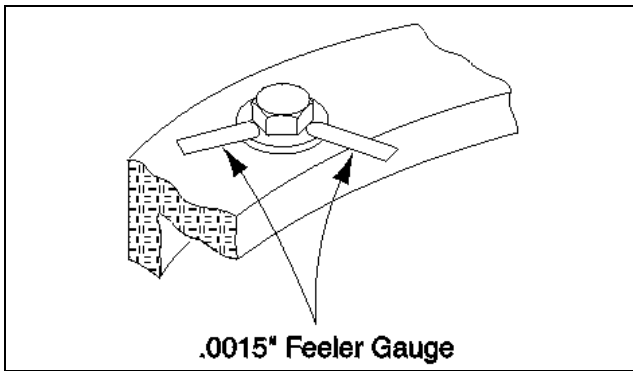

Figure 3-49. Swing Bolt Feeler Gauge Check
- b. At the positions indicated on Figure 3-49., try to insert the 0.0015 in. feeler gauge between the bolt and hardened washer at the arrow indicated position.
- b. At the position indicated on Figure 3-49., try to insert the 0.0015 in. feeler gauge between the bolt head and hardened washer at the arrow indicated position.
- d. At the position indicated on Figure 3-49., try and insert the 0.0015 in. feeler gauge between the bolt head and hardened washer at the arrow indicated position.